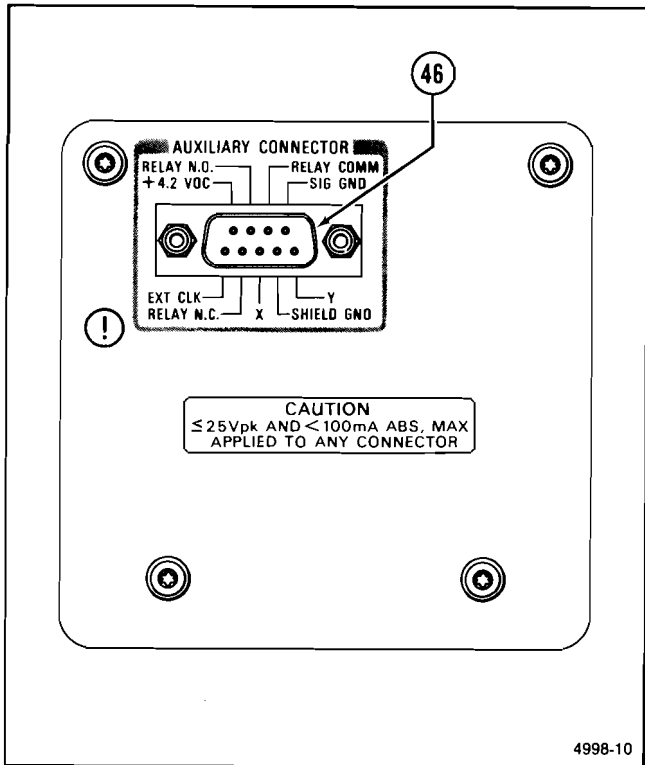

Figure 2-10. Side Panel.
The standard side panel includes one AUXILIARY CONNECTOR. Refer to Figure 2-10 for the location of item 46.